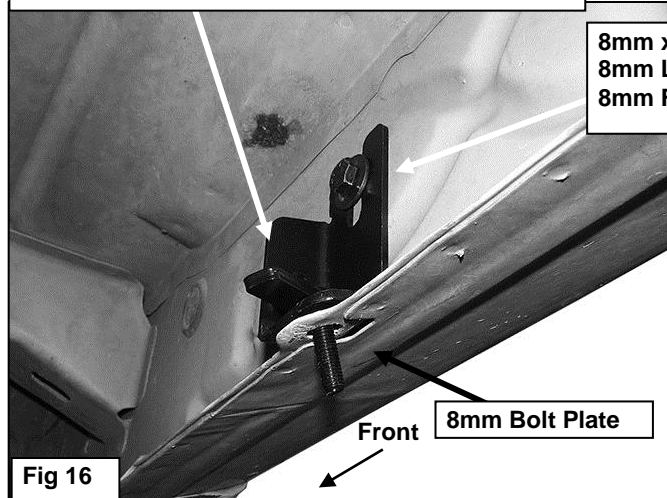

Fig 16
11. Line up the side tab on the Lower Bracket with the threaded hole in the side of the Upper Bracket. Attach the Lower Bracket to the Upper Bracket with (1) 8mm x 25mm Hex Bolt, (1) 8mm Lock Washer and (1) 8mm Flat Washer, (Figures 16 & 17). Leave loose at this time.